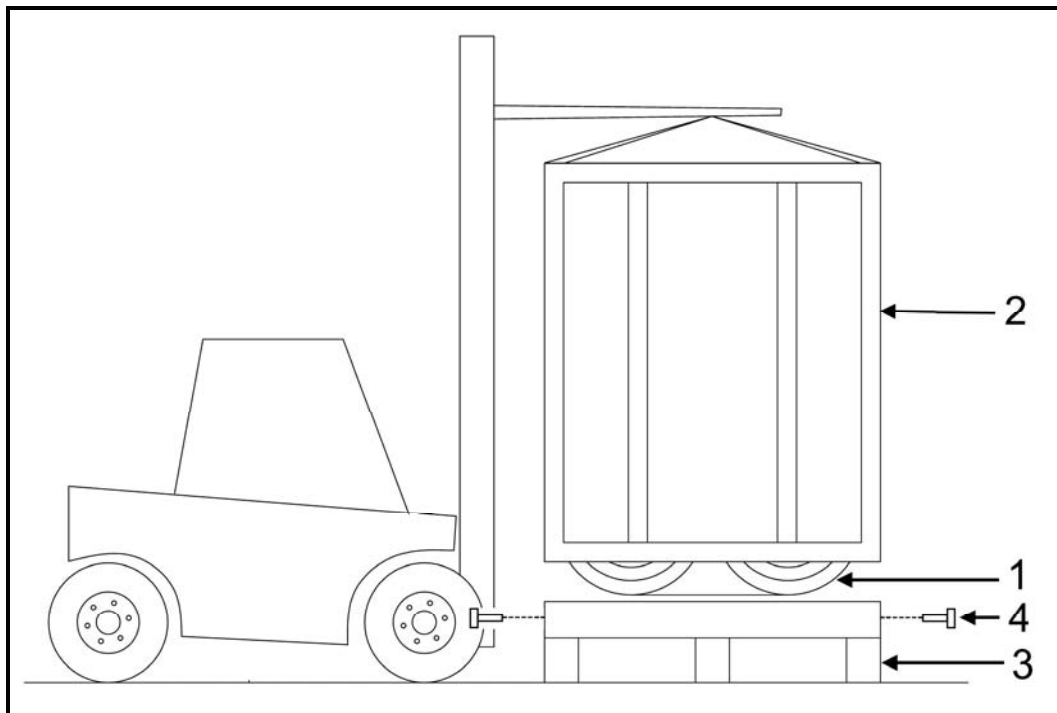

Figure 10. Opening the Collapsible Fuel Tank Crate.
1. Carefully open the IPDS Collapsible Fuel Tank Crate by removing bolts (Figure 10, Item 4) from the bottom edge of the crate shell (Figure 10, Item 2). Lift the crate shell off the crate skids (Figure 10, Item 3) and remove the drain fitting hoses and fill/discharge hoses from the top of the tank (Figure 10, Item 1) and berm liner (not shown).